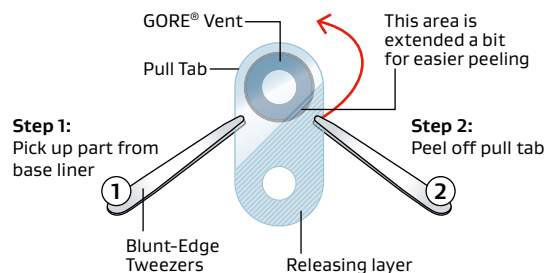

Figure 9: Removing pull tab (with releasing layer under pull tab)
- If the pull tab has a releasing layer attached on the back of the pull tab, remove the pull tab from the side in which the releasing layer is extended a bit under the part area (Figure 9).